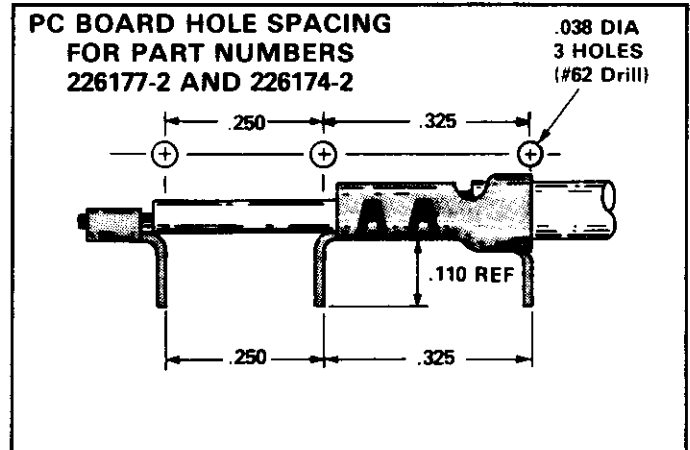

Fig. 7
6. Drill holes in pc board for center conductor and braid tabs as required. See Figure 7.